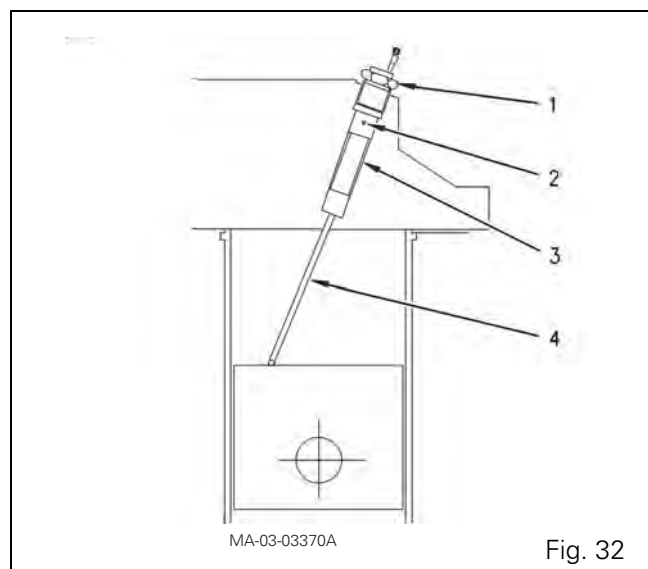

Fig. 32
164. Position tool ref. 4224787M1 into the injector bore (Fig. 32).
Parts list (Fig. 32)